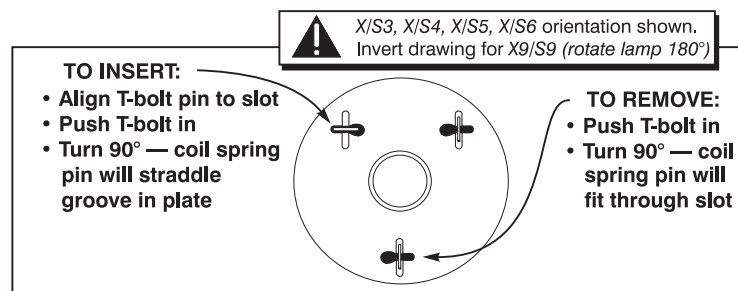

Figure 4.7. Using the T-bolts (INVERT ILLUSTRATION FOR X9/S9)
- Push the lamp all the way back and make sure the pin on each T-bolt aligns with its slot on the alignment plate—slowly turn each until the clearance slot is located. Then push and turn each T-bolt 90° to lock. See Figure 4.7.